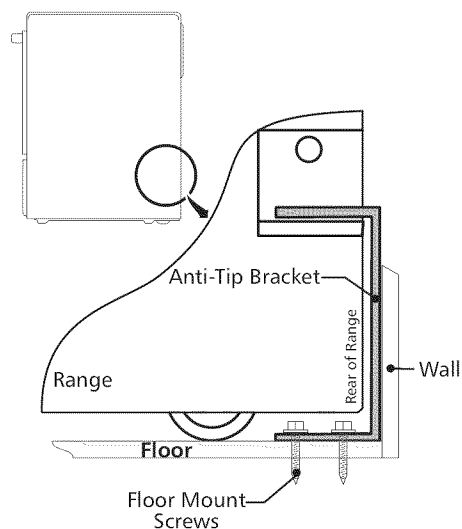

Figure 18
4. Remove template and place bracket on floor. Line up holes in bracket with marks on floor and attach with 4 screws provided. Bracket must be secured to solid floor (Figure 18). If attaching to concrete floor, first drill 3/16" (0,48cm) dia. pilot holes using a masonry drill bit.
6. Slide range into place making sure rear center leg is trapped by the anti-tip bracket (Figure 18). Lower the range by adjusting the leveling legs and leveling device until the underside of the cooktop is sitting leveled on the countertop. Refer to "Leveling the Range" section.